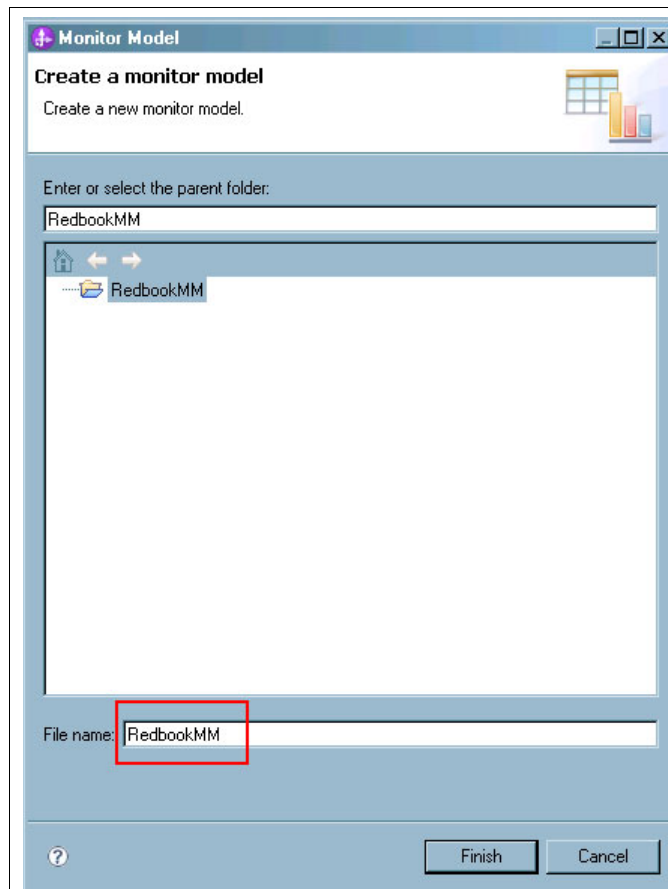

Figure 8-29 Create monitor model
1. Right-click the RedbookMM project and select **New Monitor Model**. See Figure 8-29.